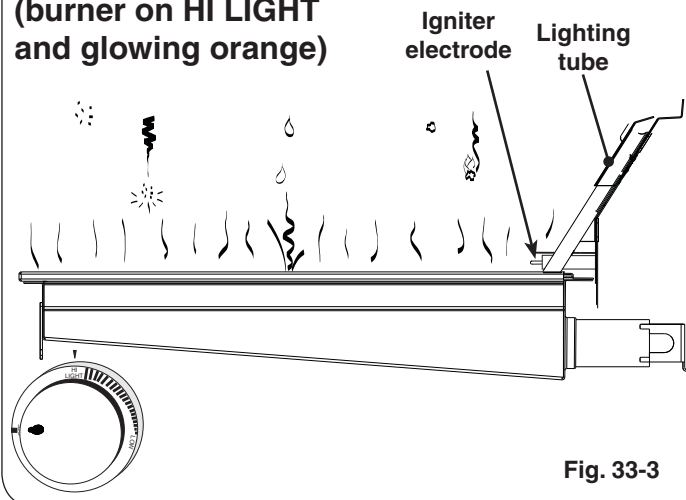

Fig. 33-3
- **DO NOT place food on the cooking grid until the IR burner glows orange (Fig. 33-3).** Drippings are heated and evaporate instead of sticking to and impairing burner function.